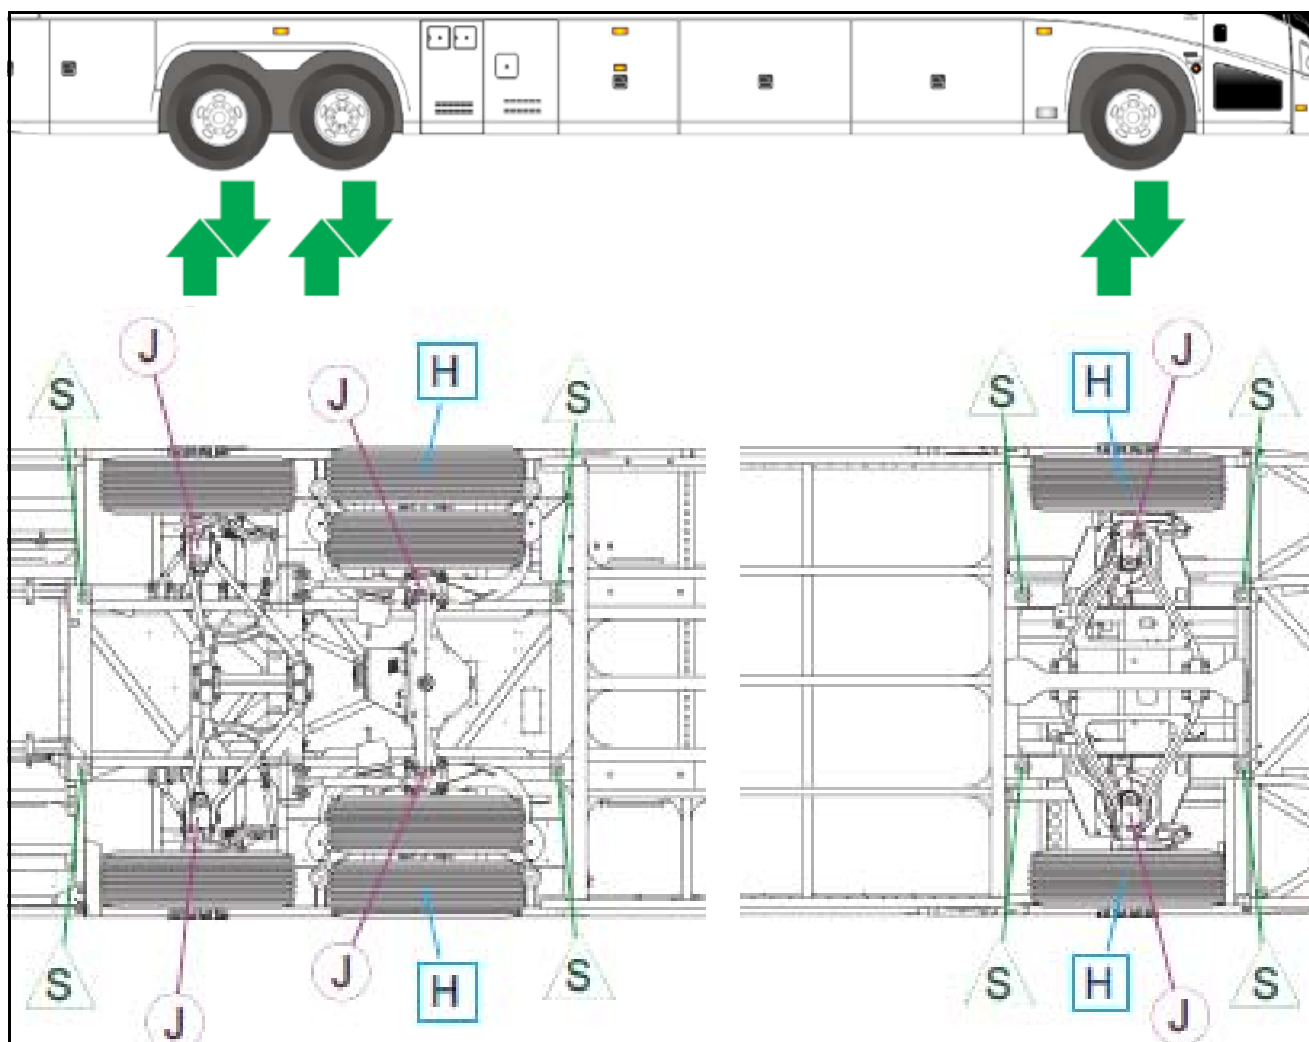

Figure 1. J4500 coach safety stands location.
2. Lift the coach to desired work height. Position safety stands underneath the coach in only the specified locations shown in Section 3F in the MCI J4500 Maintenance Manual and Figure 1 of this document.
Item	Figure 1 Description